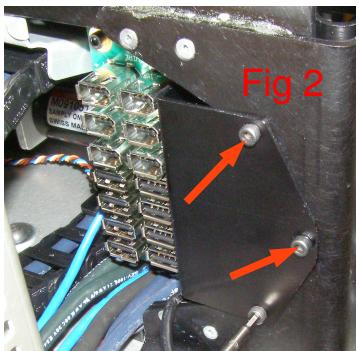

Fig 2
3. Using the 2.5mm bit with the T-handle driver, remove the 3 screws retaining the USB Hub Assembly. 2009-06 (Fig 2)